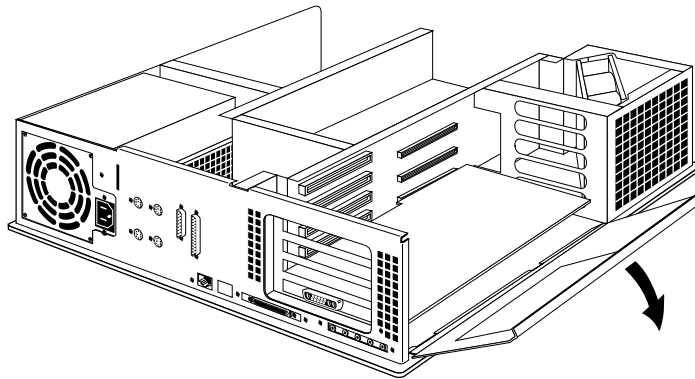

Figure 2-6 Lowering the metal panel in front of the expansion slots
2. Move the system or position yourself so that you are facing the expansion slots, as shown in Figure 2-6.
3. Open the metal panel in front of the expansion slots by pulling up on the panel and lowering it as shown in Figure 2-6.